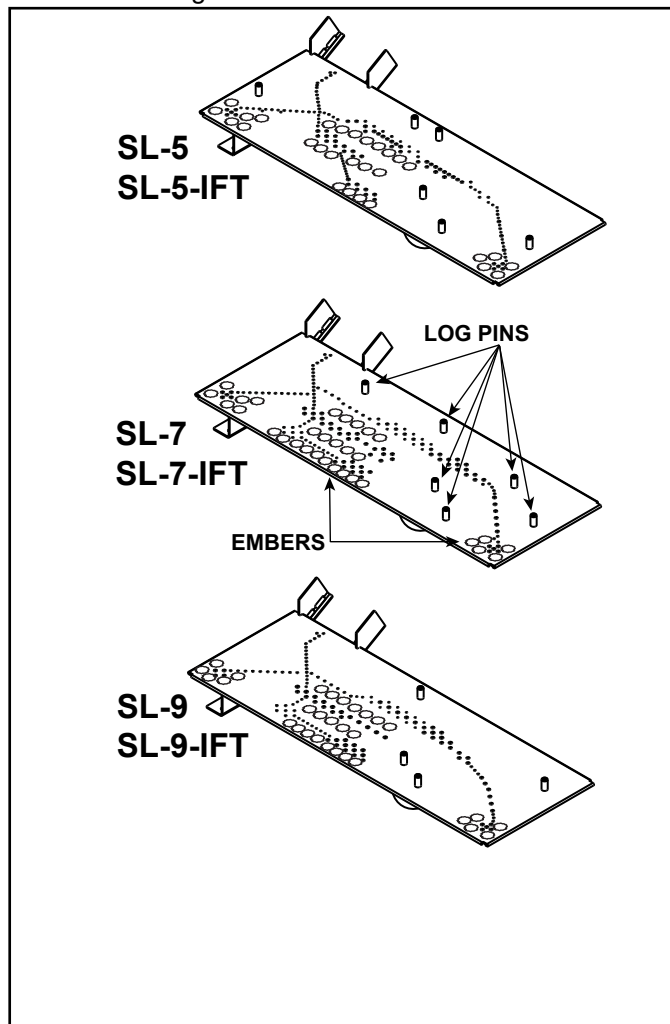
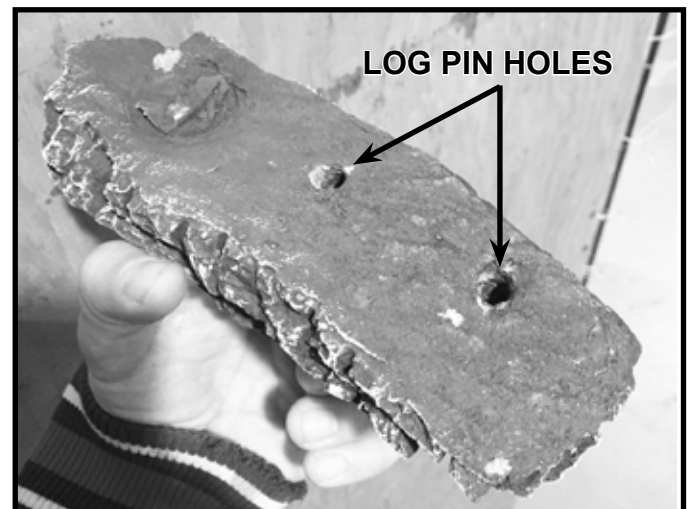

Figure 1. Log Pin and Glowing Ember Locations
Figure 2. Example of Log Pin Holes
The overall size and location of the burner assembly within the firebox is very similar between all sizes. However, each burner top has different burner ports and log pin configurations. See Figure 1 for log pin locations.
- The rear left log, rear right log and small burner log utilize holes in the bottom side of the logs that correspond to the locator pins on the burner. Reference Figure 1 and Figure 2.
3. Remove Glowing Embers® from packaging and install the ember material as shown in Figure 1. Care should be taken to avoid placing ember material directly over ports and to avoid using excessive amounts of ember material.